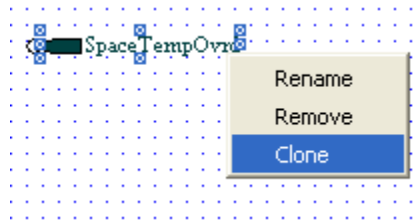

**Figure 94: Insert Continuation Child**
5. Right-click an empty space in the canvas and select Insert Continuation Child (Figure 93). The Connect Continuation window appears listing the available Parents (Figure 94).